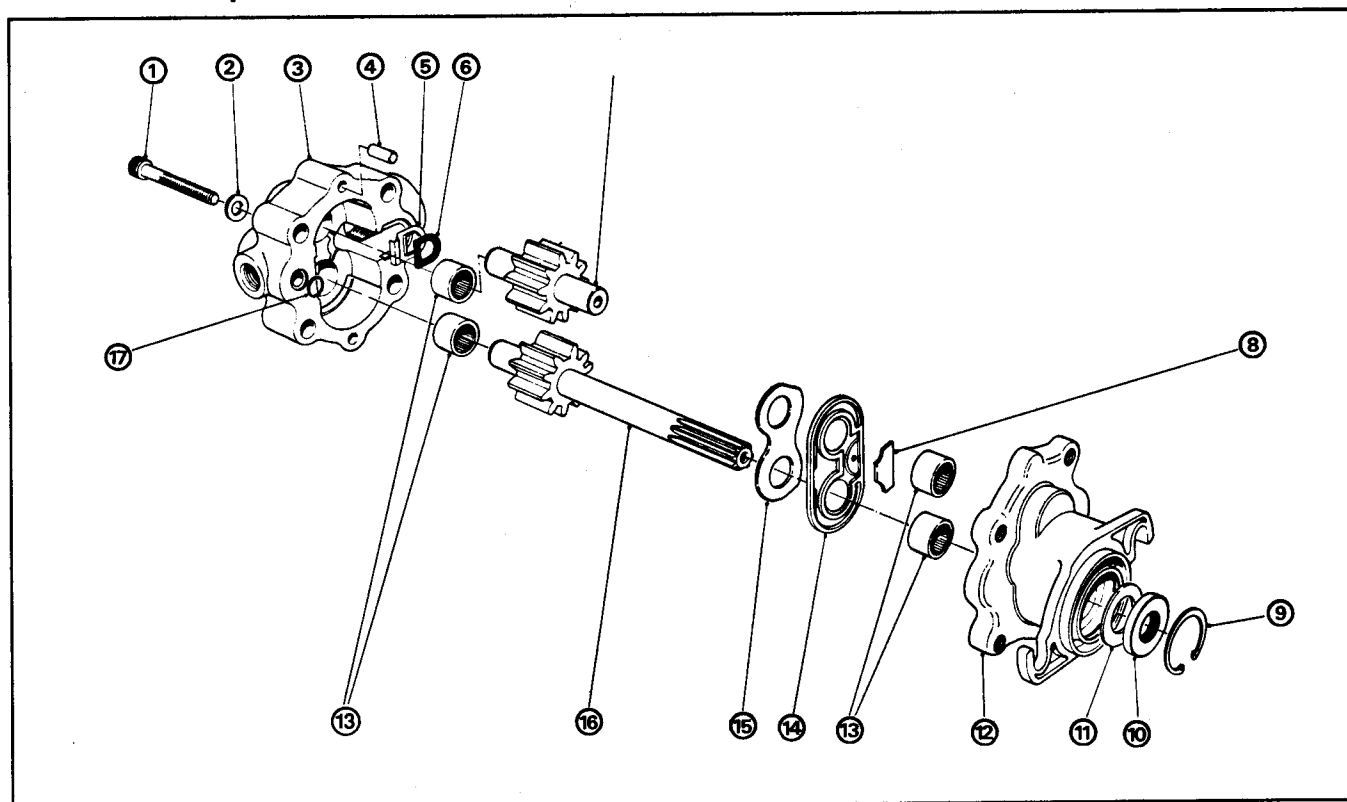

Figure 18
4. Remove snap ring from motor (Fig. 18).
3. Remove four socket head capscrews (Fig. 18).
7. Remove and discard the bridging insert, gasket insert, anti-extrusion block, snap ring, shaft seal, spacer, seal assembly, wear plate and o-ring, (Fig. 18, Items 5, 6, 8-11, 14, 15 and 17). These items are available in a repair kit.